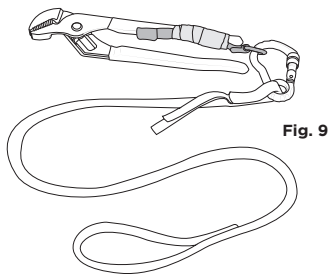

Fig. 9
6. Attach a tool lanyard to complete an appropriate tethering system [fig. 9].